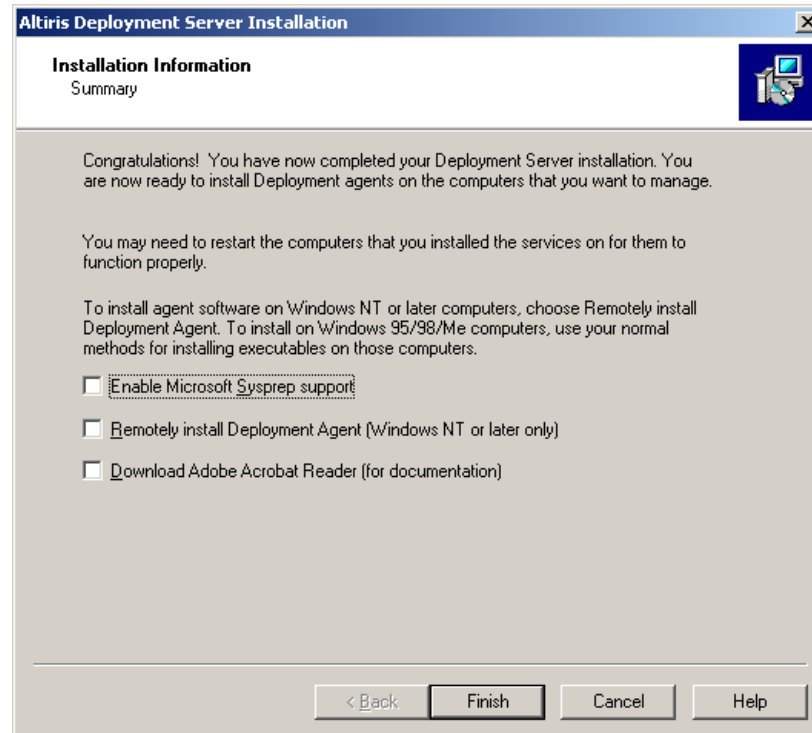

Figure 2-6 The Installation Information Summary window
9. After the installation completes, the Installation Summary window will load, Figure 2-6 on page 18, giving you the option to integrate Microsoft Sysprep, to remotely install the Deployment Agent, and to download Adobe Acrobat for reading Altiris documentation.
14. After the installation process completes, the Installation Information Summary window loads as shown in Figure 2-6 on page 18. Click **Finish** to complete the installation.